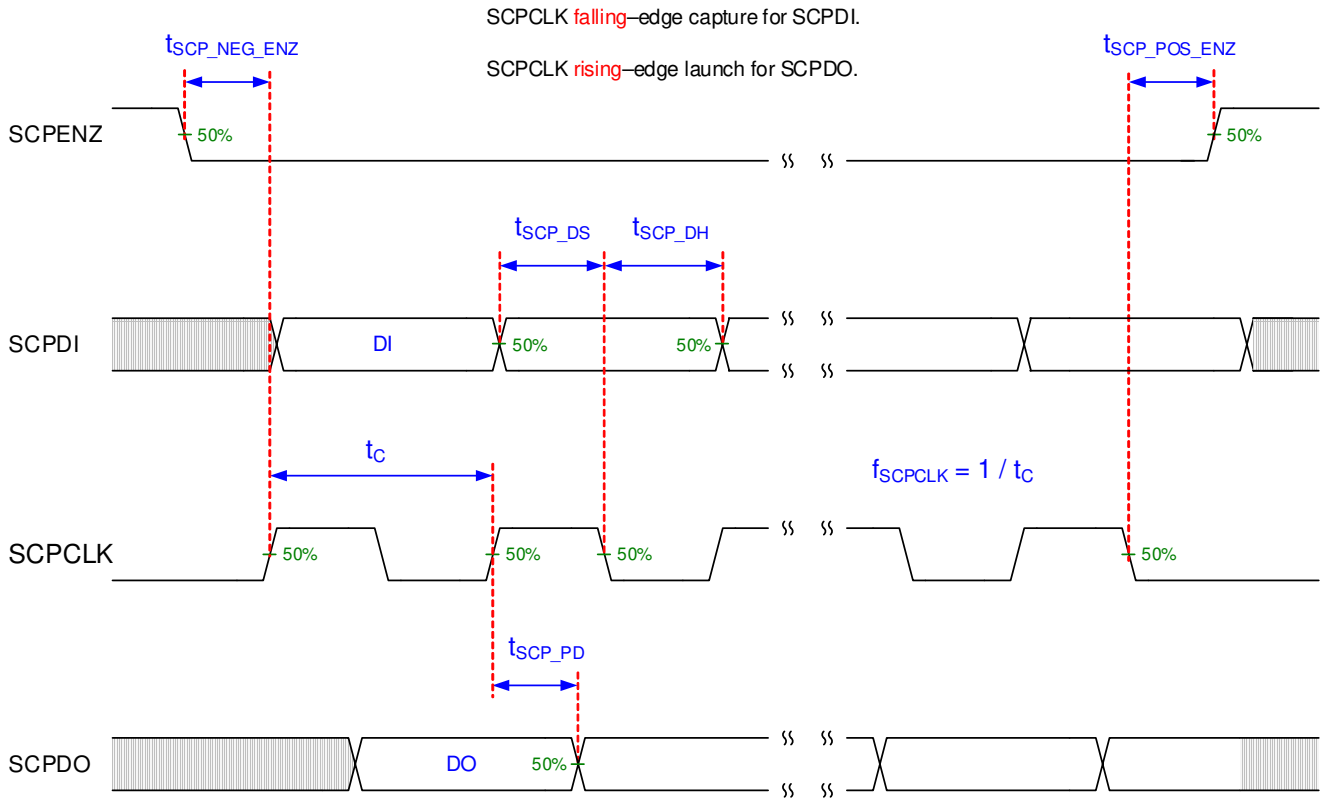

图 6-2. SCP Timing Requirements
- (5) Low-speed interface is LPSDR and adheres to the Electrical Characteristics and AC/DC Operating Conditions table in JEDEC Standard No. 209B, "Low-Power Double Data Rate (LPDDR)" JESD209B. Tester Conditions for VIH and VIL.
- (6) PWRDNZ input pin resets the SCP and disables the LVDS receivers. PWRDNZ input pin overrides SCPENZ input pin and tristates the SCPDO output pin.
- (7) The SCP clock is a gated clock. Duty cycle must be 50% \pm 10%. SCP parameter is related to the frequency of DCLK.
- (8) See 图 6-2.